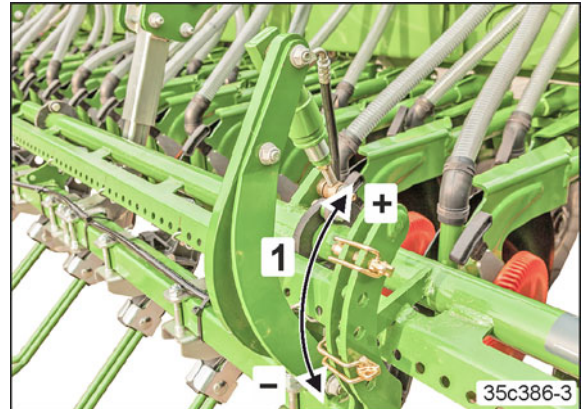

Fig. 191
2. The higher the pins are inserted in the adjustment scale (Fig. 191/1+), the greater the exact following harrow pressure.